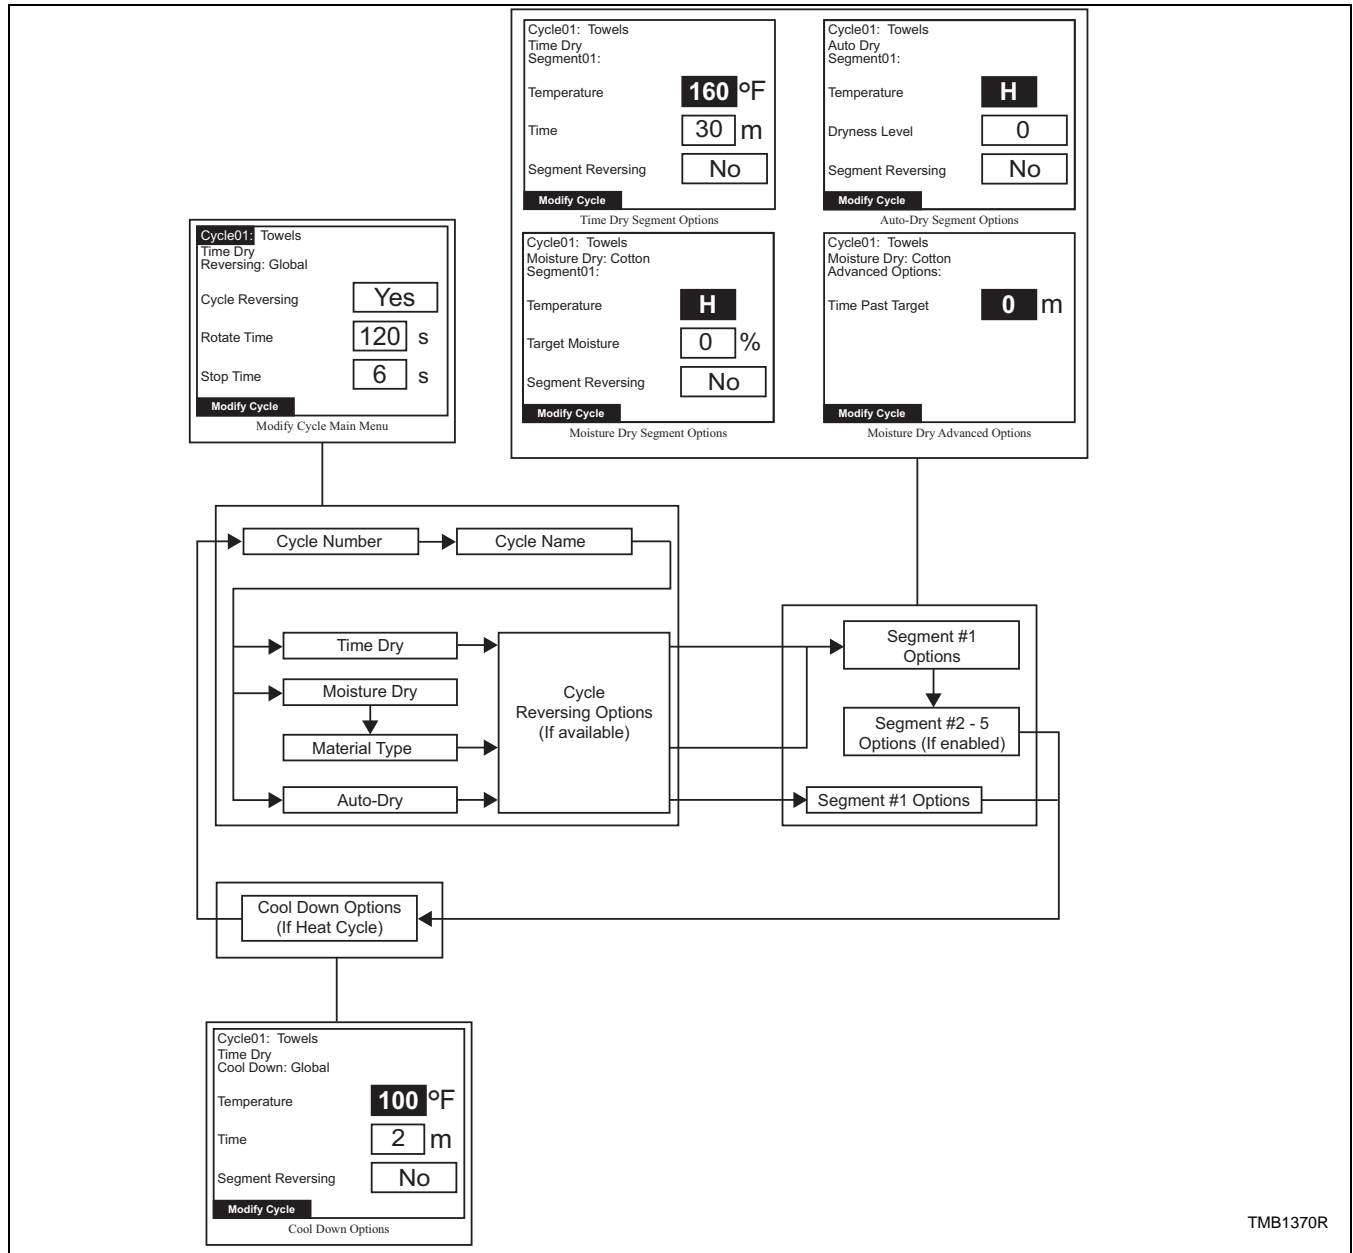

Figure 25
**Figure 25 illustrates the flow of the cursor during the programming of a cycle.**